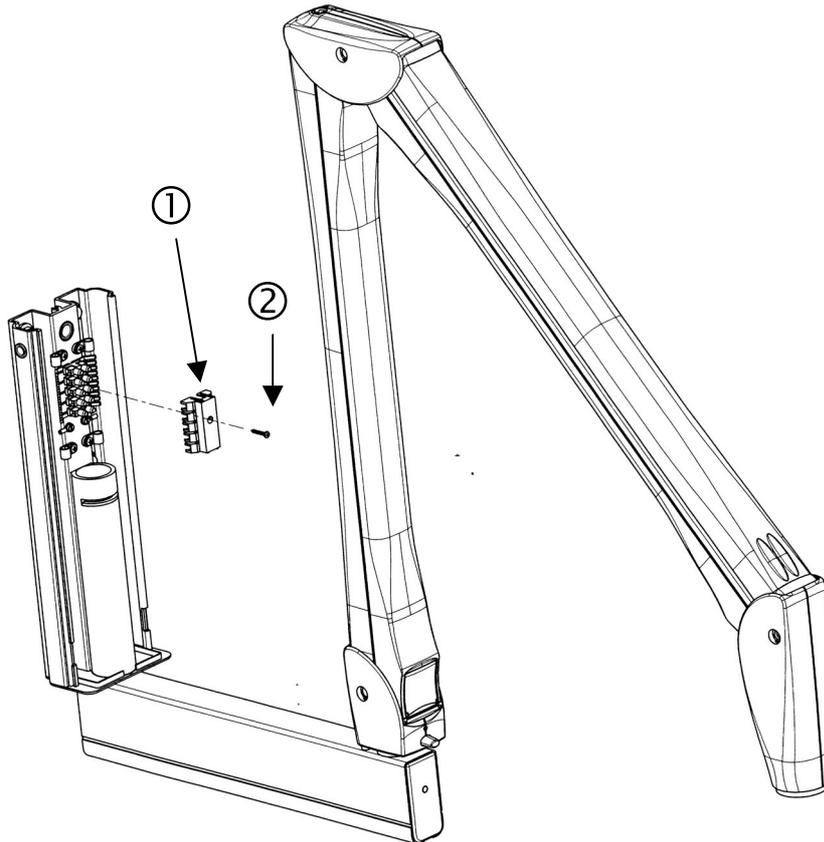

Fig. 10
OPERATING INSTRUCTIONS (Fig. 10)
3. Connect the pantograph cable shield to the grounding potential ⑥
4. Connect the wall plate to the grounding potential ⑦
6. Reassemble the terminal board cover (*refer to* ① *Fig. 10*)